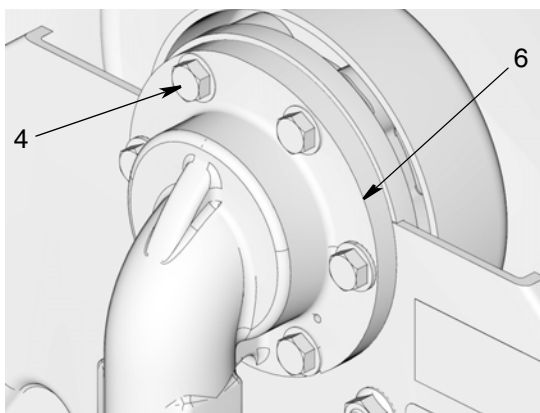

FIG. 2
- a. On the inlet side, remove bolts (4) and inlet (6) (FIG. 2).